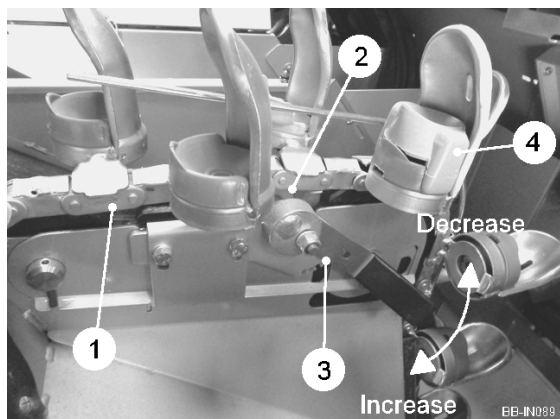

Fig. 8
The cup chain (item 1, fig. 8) transfers the seed from the feed pocket to the ground. The agitator roller (item 2, fig. 8) vibrates the cups preventing 'doubles'. The excess potatoes fall back into the feed pocket. The amount of agitation is increased / decreased by setting the handle (item 3, fig. 8).
*Never adjust the agitator handle (item 3, fig. 8) with the cup chain running.*
To remove an insert cup, using a suitable diameter punch, push the centre plug out through the bottom of the cup to release it. The new insert cup can then be fixed in position by refitting the plug (chamfer downwards) into the centre of the new cup from above. The blue insert cups (item 4, fig. 8) are designed to fit inside the red cups as shown. When inserting the blue cups, the centre plugs will need to be removed first.